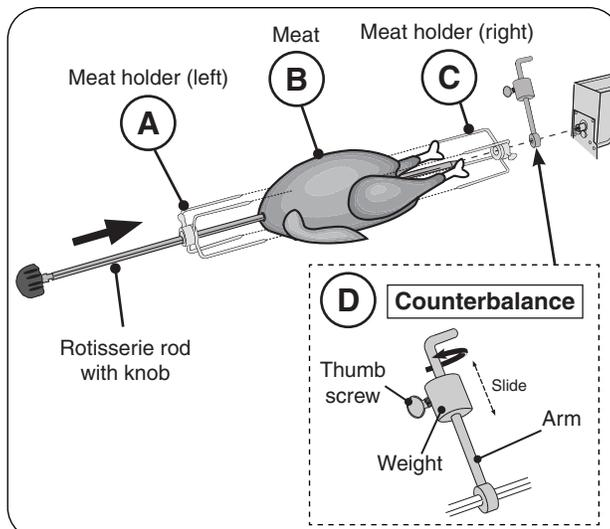

Fig. 33-3 Assemble rotisserie rod for cooking
4. Slide the left meat holder onto the rod and tighten (see Fig. 33-3, A).
5. Then slide meat onto the rod, followed by the right meat holder (see Fig. 33-3, B and C).
8. The counterbalance may then be attached to even weight distribution. Slide the counterbalance onto the rod next to the right meat holder (see Fig. 33-3, D). Loosen the arm and point it upward opposite the heavy side of the meat. Tighten the arm.
9. Slide the counterbalance weight up or down the arm until the rod rotates most evenly then tighten thumb screw (see Fig. 33-3, D).